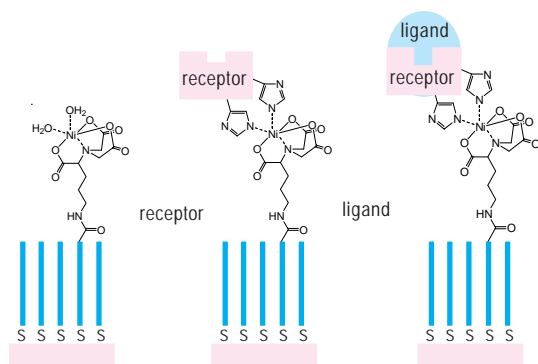

Fig. 11-3. Procedure for immobilization of receptor using His-tag.
The use of a short peptide as an affinity tag is one of the most common methods for the detection and purification of recombinant proteins. These tag proteins are mostly antibody epitopes that are detected with their antibodies²⁰⁾. Sigal and others prepared a self-assembled monolayer that selectively binds protein with a stretch of six histidines (His-tag). They prepared two alkanethiols; one with a nitrilotriacetic acid (NTA) group that forms a tetravalent chelate with Ni(II) ion and the other with a triethyleneglycol group that is capable of avoiding nonspecific adsorption of protein (Fig. 11-3). This membrane can only recognize a His-tag protein through the nickel(II) ion chelated with NTA on the SAM. This technique is useful for immobilization of His-tag proteins for study using surface plasmon resonance (SPR)²¹⁾.